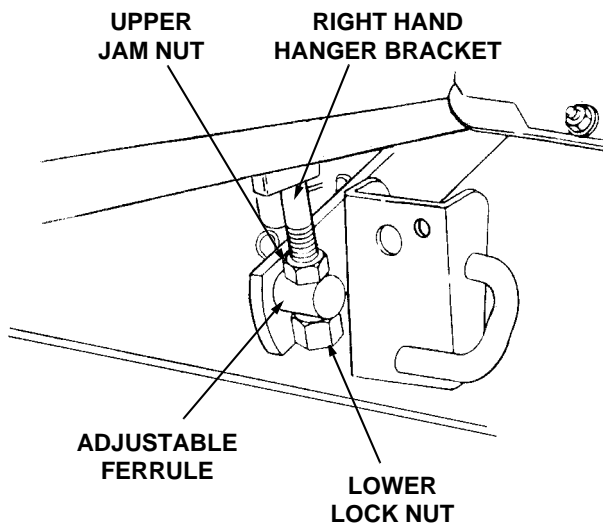

Figure 30
8. Side-to-side leveling is obtained utilizing the adjustment ferrule and right hand hanger bracket (See Figure 30).
9. Loosen the upper jam nut on the hanger bracket and turn away from the adjustment ferrule. Turn the lower lock nut upward (tighten) on the threads of the hanger bracket to raise the right side of the mower deck. Turn the lock nut down (loosen) on the threads to lower the right side of the mower deck (Refer to Figure 30).